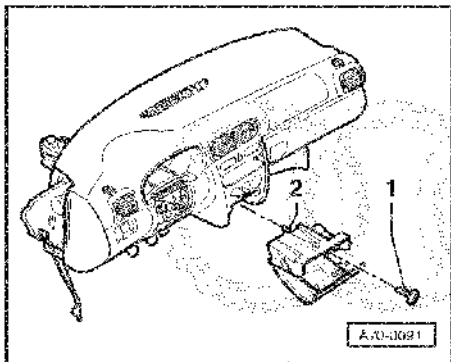

Fig.3 Removing and installing front ashtray
- ◀ – Remove front ashtray => Fig. 3
– Removing front ashtray => Fig. 3